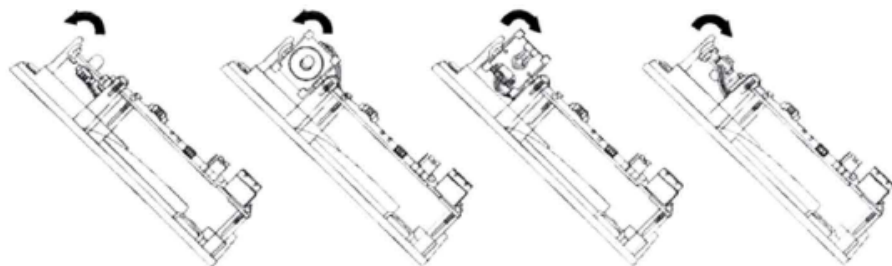

Fig 5
- 2** Infrared receiver, orientable 220 degree. Refer to Fig 5.